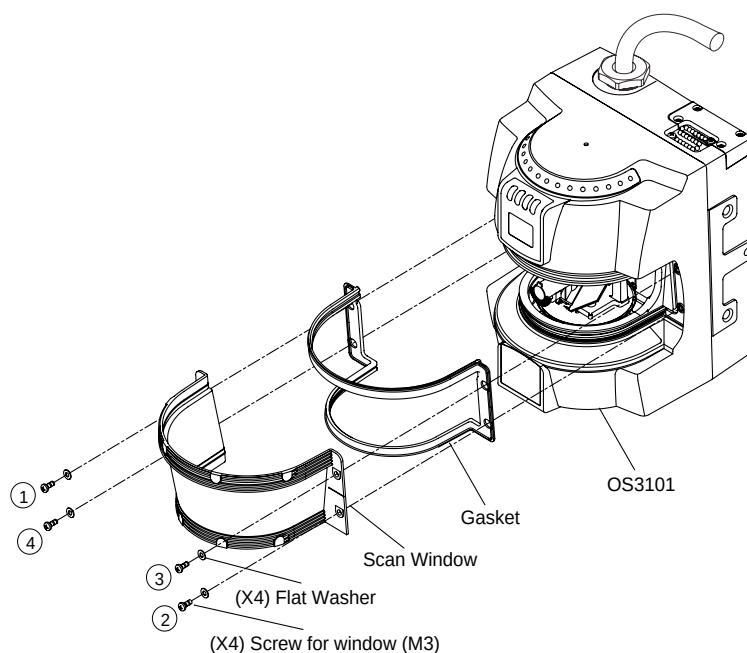

Fig. 7-4 Window Replacement
8. Replace the four screws with flat washers in an alternating pattern ( Fig. 7-4). It is recommended that the screws be tightened to a torque of 0.14N•m.